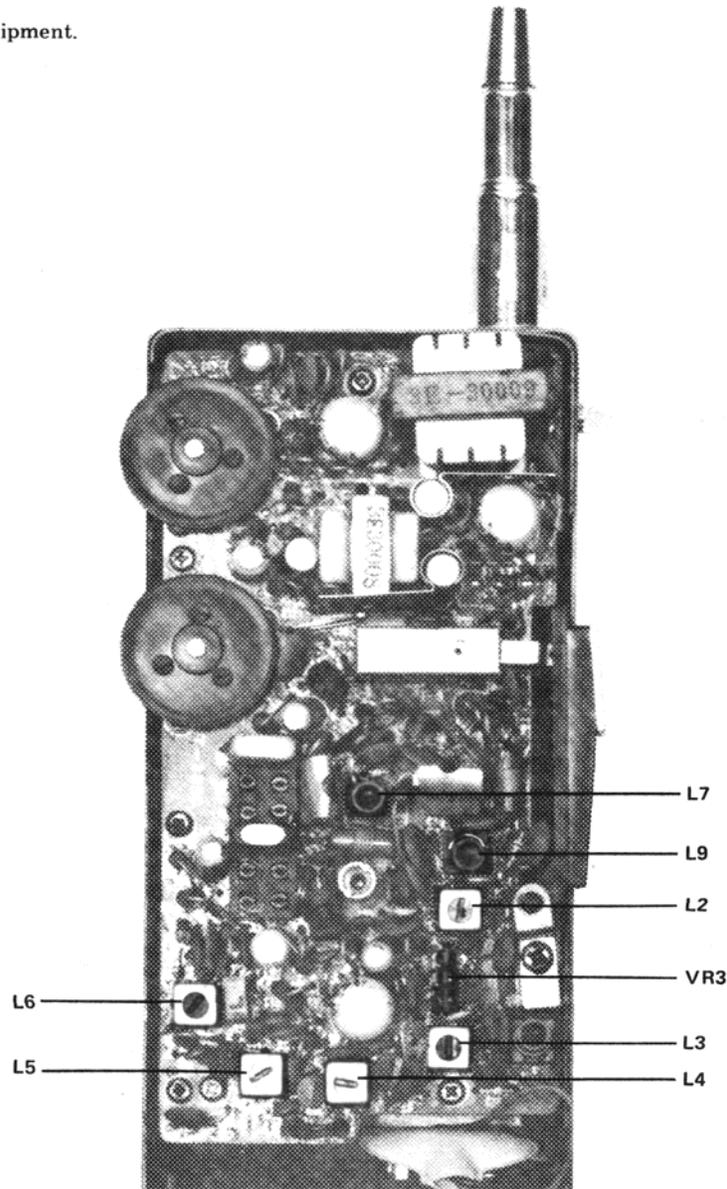

Figure 5-1 Adjustment Locations
Refer to Figure 5-1 for transmitter adjustment and test point locations.
5.5 RECEIVER ALIGNMENT (Refer to Figure 5-1)